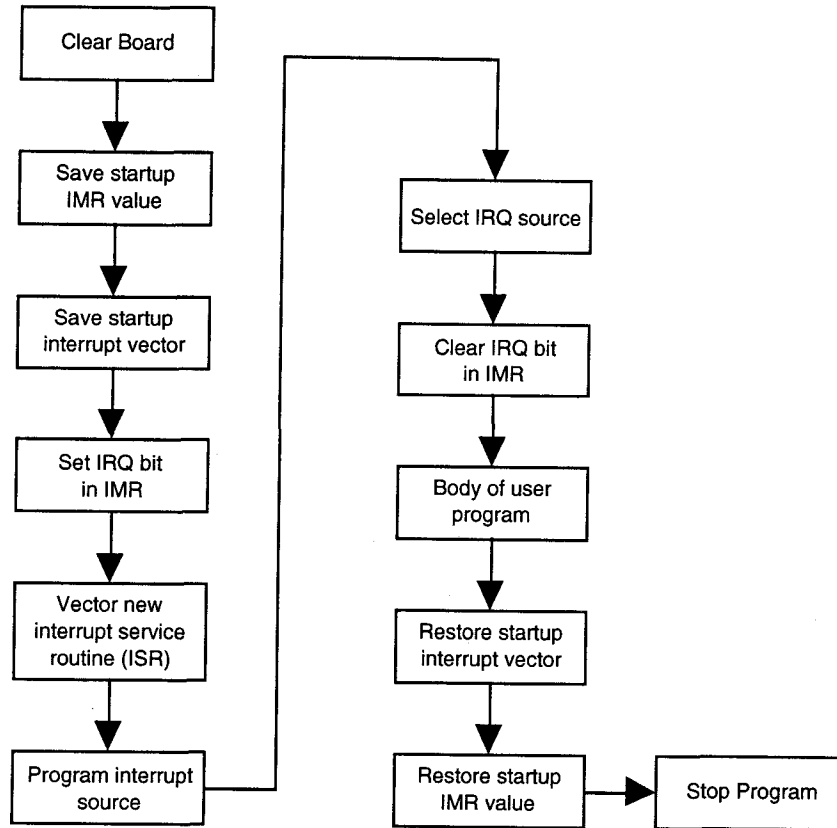

Fig. 4-11 — Interrupts Flow Diagram
• **Interrupts Flow Diagram (Figure 4-11)**